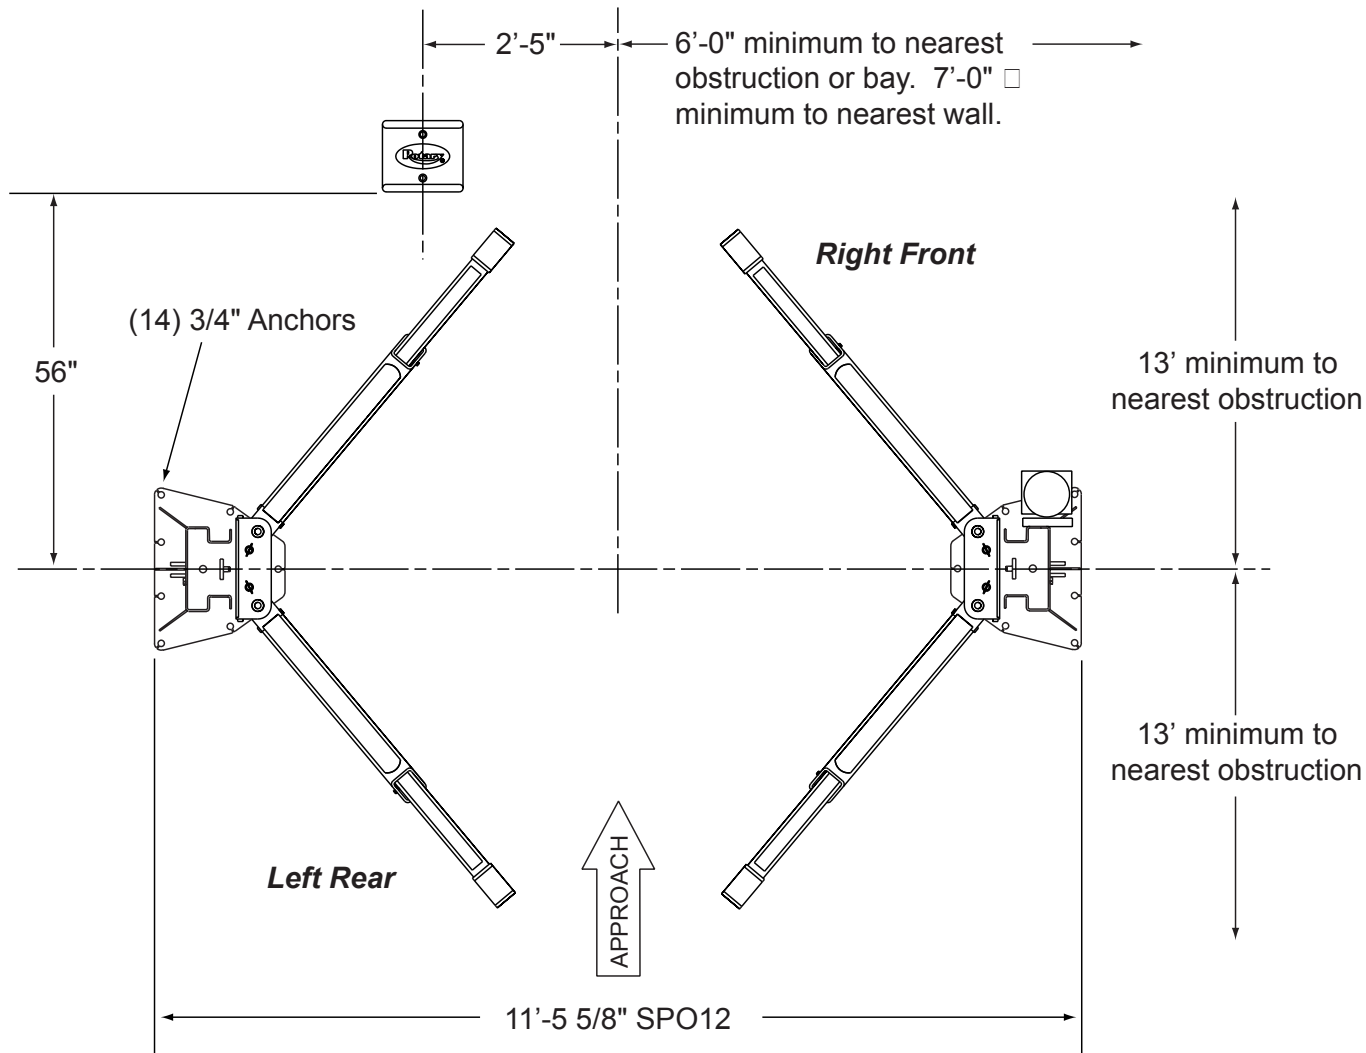

Fig. 1
1. Lift Location: Use architect's plan when available to locate lift. Fig. 1 shows dimensions of a typical bay layout.
4. Lift Setting: Position columns in bay using dimensions shown in Fig. 1. Place column with power unit mounting bracket on vehicle passenger side of lift. Both column base plate backs must be square on center line of lift. Notches are cut into each base plate to indicate center line of lift.